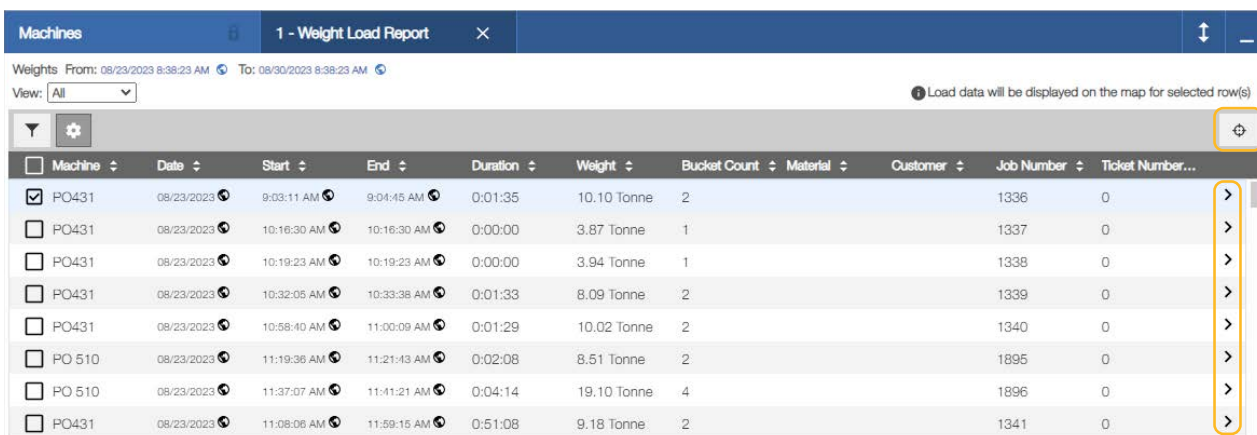

Figure 5-8: View Weight Load Report
- Select **View** to see the report (Figure 5-8).